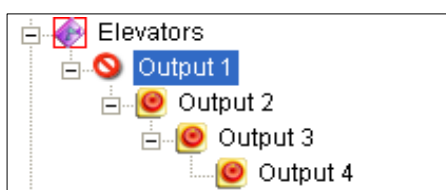
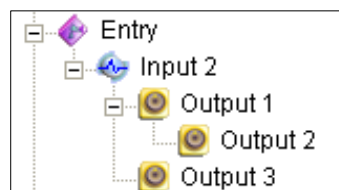

Figure 6-24
Figure 6-25
- In the Advanced I/O List, considering cascade triggers, you can only manually force the output at the top level, e.g. Figure 6-24. Other outputs at sub levels cannot be forced manually, e.g. Figure 6-25.